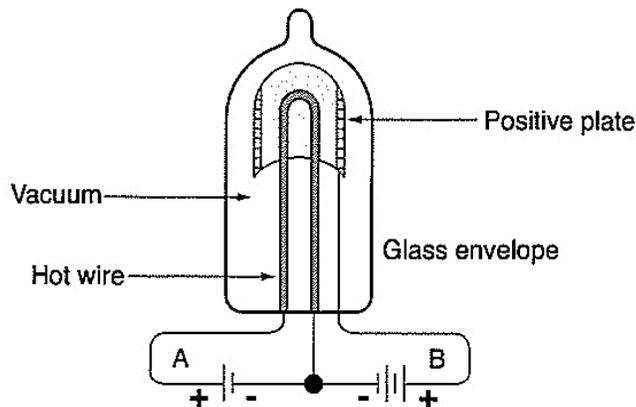

Figure 10.1: Thermionic Emission
- 10-9 In a vacuum tube, a thin wire is heated electrically until it glows bright orange, as shown in Figure 10.1. At this temperature, electrons at the surface of the wire fly off into the space around it. If the temperature of the wire is increased, electrons escape from the surface at a faster rate.
10-14 In Figure 10.1, a single wire serves as both the filament and the cathode. The "A" battery heats the filament to proper temperature. The "B" battery produces a potential difference between the cathode and the anode. It supplies electrons to the cathode, and puts a positive charge on the anode.